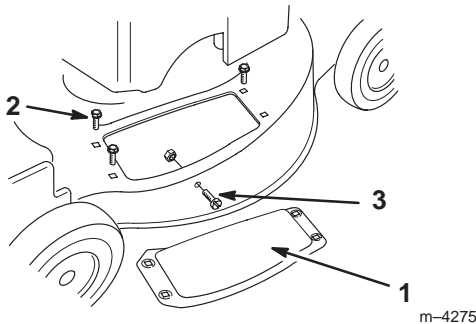

Figure 33
4. Remove and save the three bolts that secure the discharge cover to the lawn mower (Fig. 33). Save the cover and bolts for future use.
5. Remove the screw and nut from side of the lawn mower (Fig. 33). Save them for future use.